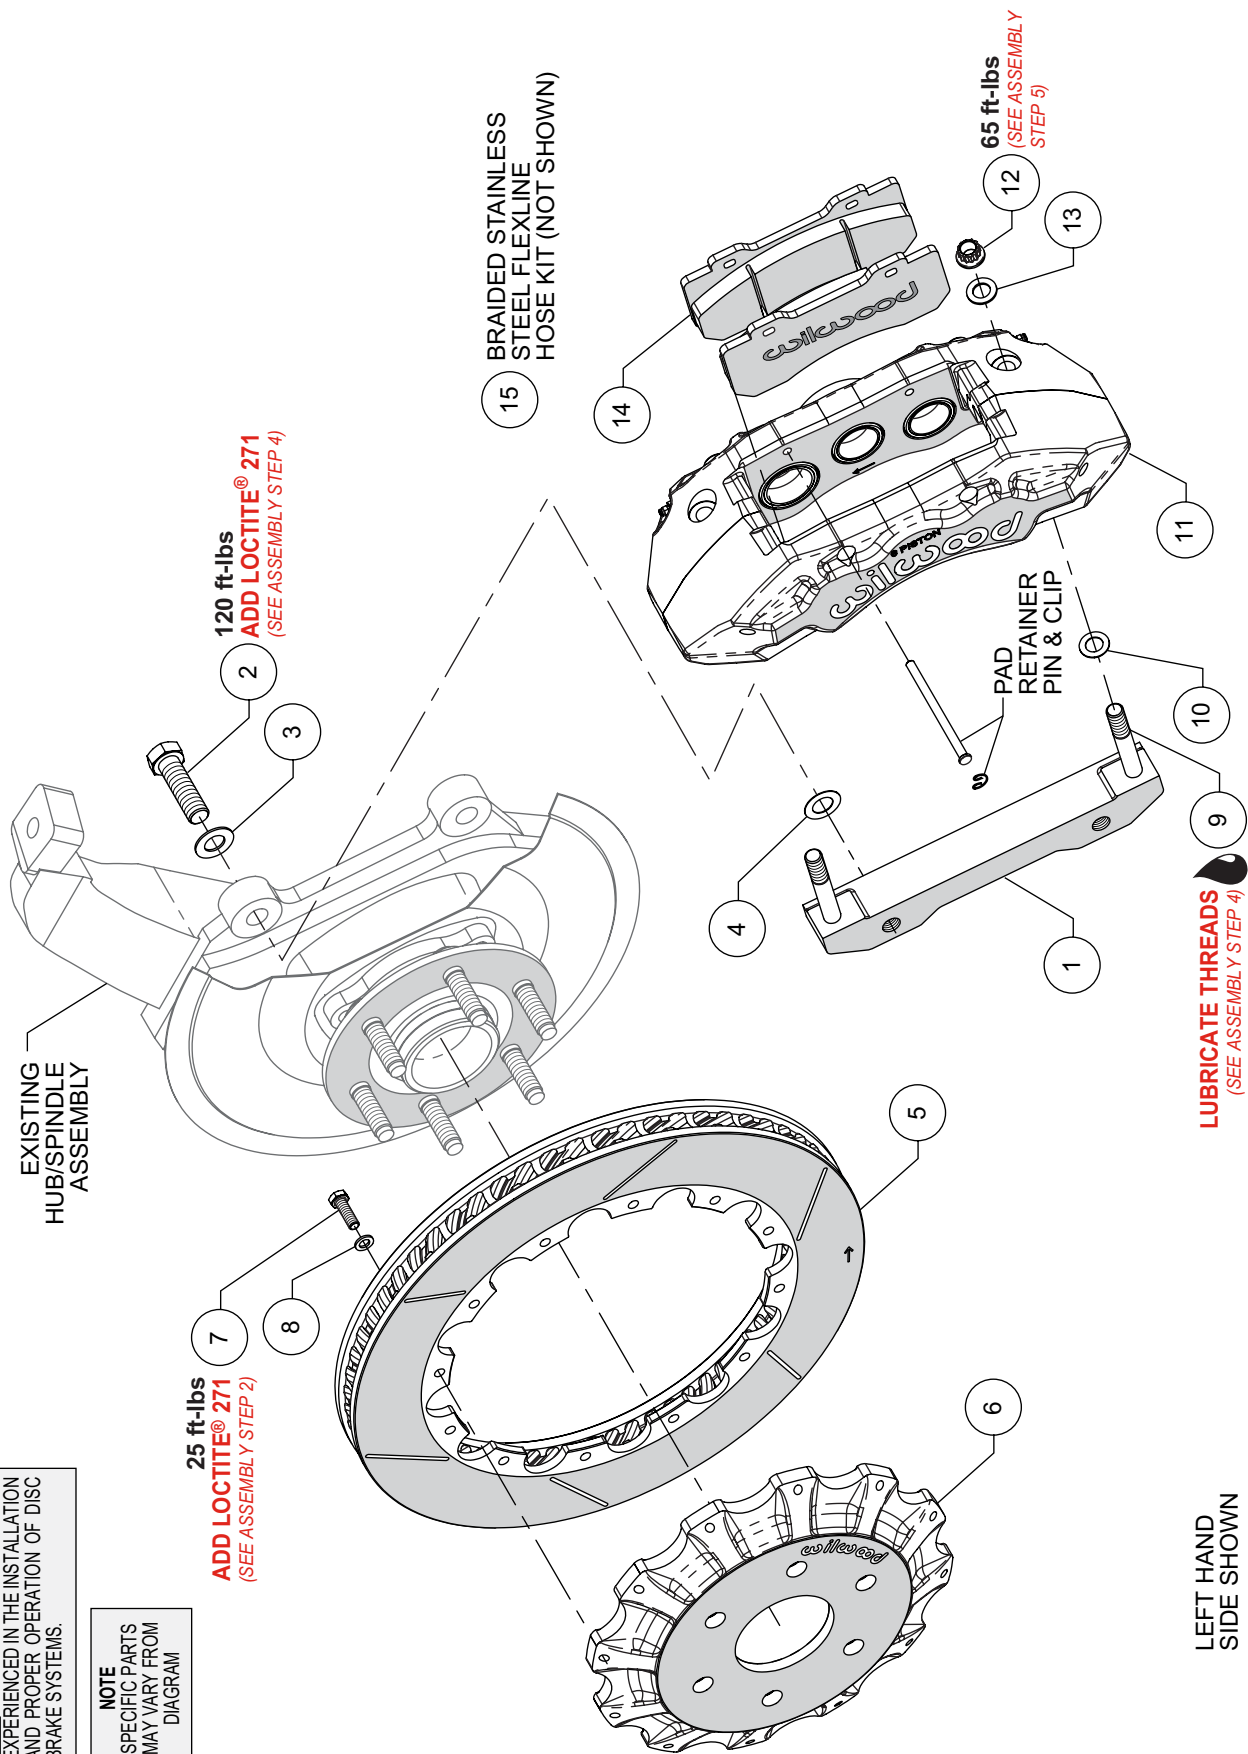
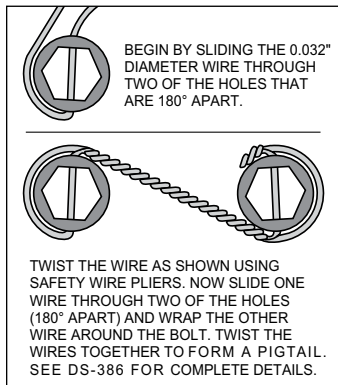

Figure 1. Typical Installation Configuration
Figure 3.
**NOTE:** Numbers in parenthesis refer to the parts list and Figure 1 on the preceding pages.
**STEP 1** The caliper mount bracket (1) should initially be installed with clean, dry threads on the mounting bolts. Orient the bracket as shown in Figure 1 and Photo 1, and install using bolts (2) and washers (3). Initially place one .024" thick shim (4) on each bolt between the bracket and upright, Figure 1 and Photo 2 (arrow). Temporarily tighten the mounting bolts. **NOTE:** The bracket must fit squarely against the mount bosses on the upright. Inspect for interference from casting irregularities, machining ridges, burrs, etc. Later, after the caliper alignment has been checked, the mount bolts will be secured using red *Loctite*® 271.
**STEP 2** Orient the rotor (5) and the hat (6) as shown in Figure 1 and Photo 3. Attach rotor to hat using bolts (7) and washers (8). Using an alternating sequence, torque to value shown in Figure 1. For an added measure of security, the bolts may be safety wired using standard .032" diameter stainless steel safety wire as shown in Figure 3. Please refer to Wilwood's data sheet DS-386 (available at [www.wilwood.com/Pdf/DataSheets/ds386.pdf](http://www.wilwood.com/Pdf/DataSheets/ds386.pdf)) for complete safety wire installation instructions.
**STEP 4 NOTE:** This kit contains distinct right and left hand calipers that must be mounted in a specific direction, as described below. Lubricate the caliper mounting studs (9) with lightweight oil. Initially place one .032" thick shim (10) on each stud as shown in Figure 1 and Photo 5. Mount the caliper (11) onto the bracket (1) using lock nuts (12) and washers (13), Figure 1. Ensure that the caliper is mounted so that the largest pistons are at the rotor exit end of the caliper, in relation to the direction of rotor rotation. Temporarily tighten the lock nuts and view the rotor through the top opening of the caliper. The rotor should be centered in the caliper, Photo 6. If not, adjust by adding or subtracting shims (4) between the bracket and the upright. Always use the same amount of shims on each of the two mounting bolts. Once the caliper alignment is correct, remove the bracket mounting bolts (2) one at a time, apply red *Loctite*® 271 to the threads, and torque to value shown in Figure 1.
**STEP 5** Remove the two pad retaining pins from the caliper by carefully popping out the pin retaining clips and sliding out the pins. Insert the brake pads (14) into the caliper, with the friction material facing the rotor, as shown in Photo 7 and secure the brake pads in place with the pad retaining pins and clips, Photo 8. Check that the top of the brake pad is flush with the outside diameter of the rotor, Photo 8. If not, adjust by adding or subtracting shims (10) between the caliper and the bracket. After the caliper pad height is set, torque the caliper lock nuts to value shown in Figure 1.
**STEP 7** Install Wilwood's stainless steel braided flexline hose kit (14), P/N 220-16802 included with this kit, as shown in Photos 9 and 10. The caliper inlet fitting is a 1/8-27 NPT (use PTFE tape on pipe threads for proper sealing to caliper). **Carefully route hoses to prevent contact with moving suspension, brake or wheel components.**